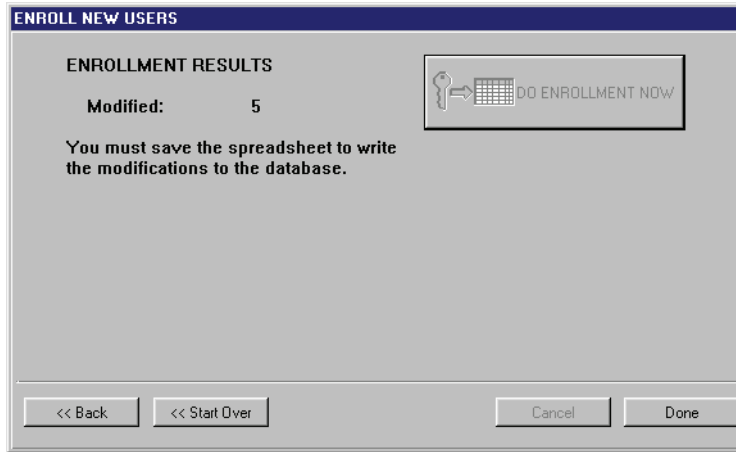

Figure 4-15: Enrollment Results Window
12. Once you have verified all the information is correct on the confirmation display, click on the  button. The cards are enrolled and the Enroll New Users window displays the enrollment results (see Figure 4-15 on page 12 of this section).